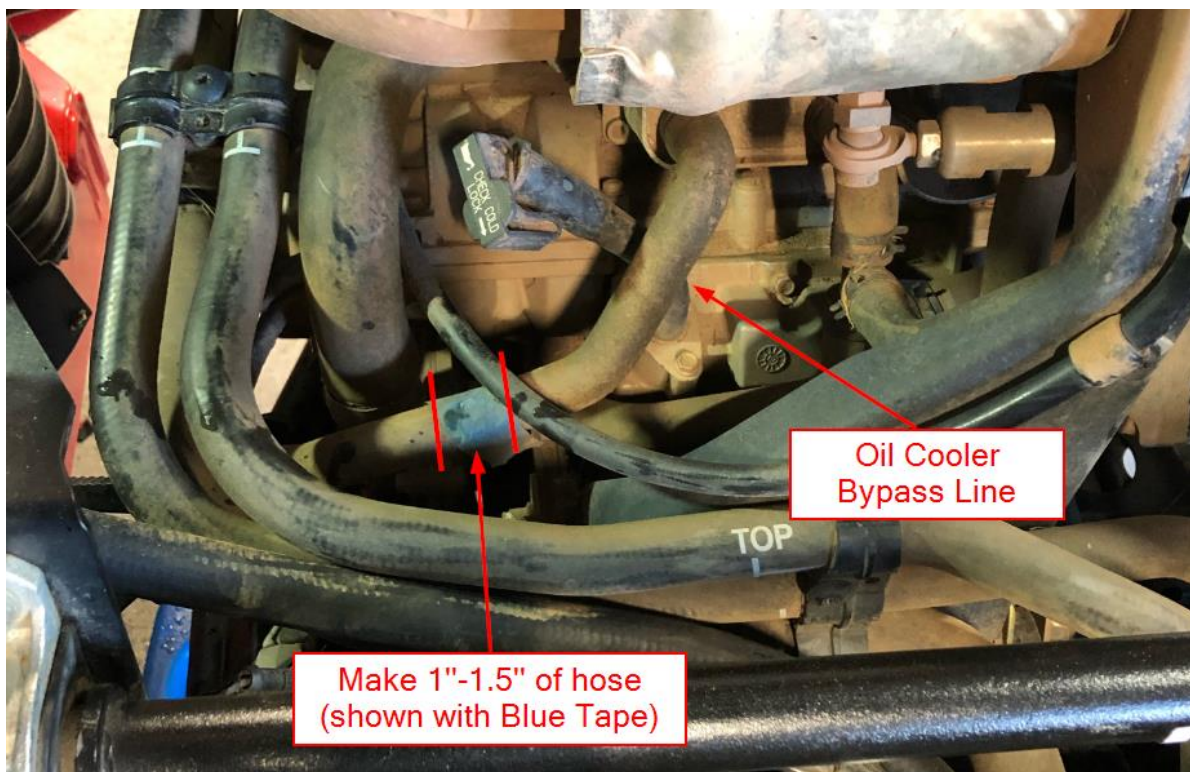

Figure 18
- m. Mark a 1"-1.5" section of the Oil Cooler Bypass line as shown Figure 18. Clamp off the upstream and downstream sections of the line if you have clamps, otherwise place a bucket under the identified area prior to cutting the hoses.